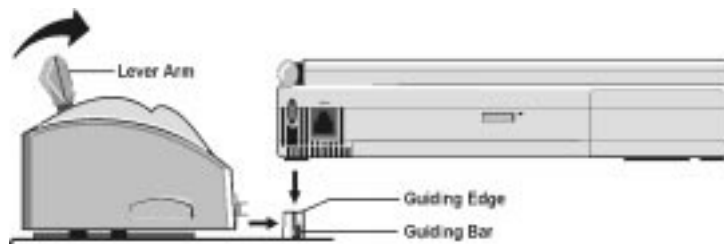

Figure 7-7: Connecting the computer to the port replicator
7. Pull the lever arm forward (shown in Fig. 7-7) to plug the 204-pin port replicator connector on the rear panel of the computer into the computer connector on the front panel of the port replicator.